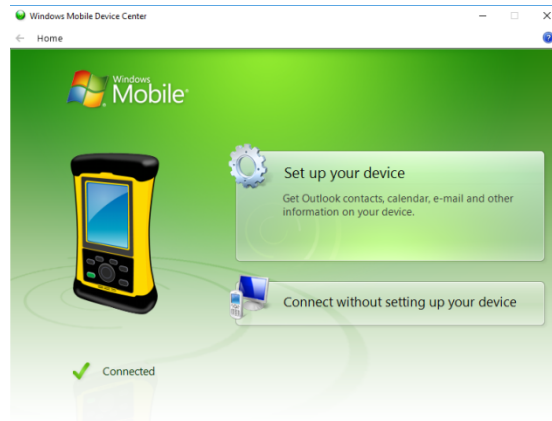

Figure 2-16 Correctly connected HHT as shown by the Windows Mobile Device Center.
2. Make sure the HHT is connected in the Windows Mobile Device Center (see Figure 2-16).
If issue persists, make sure the program is running in the Windows Task Manager and repeat the previous steps. You may also need to reset the HHT, and/or the Windows computer. It is required to have the HHT connected (Figure 2-16) before proceeding.
See 'Uploading the Job to the HHT' in Sect 2.4.1 or Sect 2.4.2 and Figure 2-16 for more information.